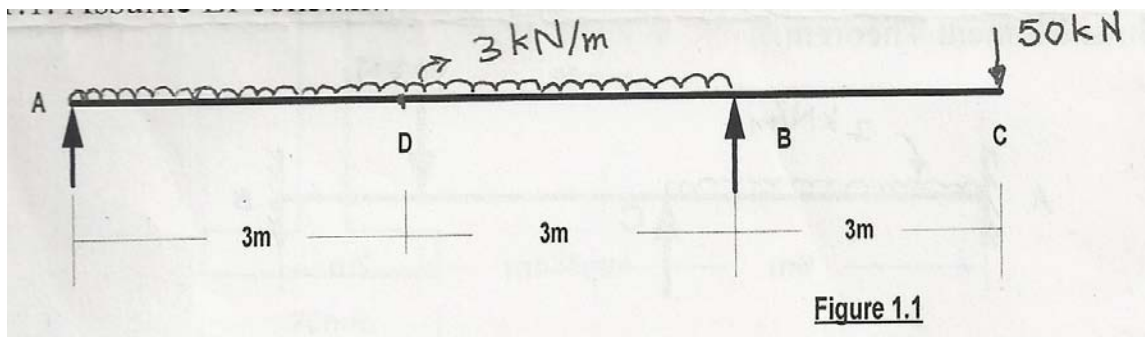

Figure 1.1
Q. No. 1 a) Explain relation between actual beam and conjugate beam. (4)
b) A simply supported beam of span 3 m is carrying a uniformly distributed load 10 kN/m. Find the values of maximum slope and deflection of the beam. Take modulus of rigidity of the beam as $10 \times 10^9 \text{ N.mm}^2$. The flexural rigidity is same through the span. Use Conjugate Beam Method. (7)
c) Determine deflection at point 'C' and 'D' for an overhanging beam ABC loaded as shown in Figure 1.1 Assume EI Constant. (7)